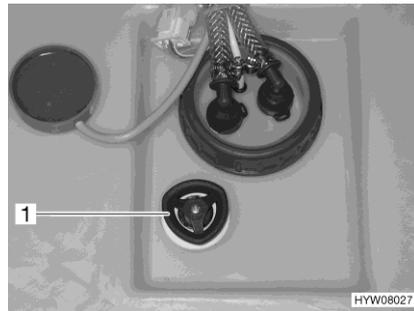

Fig. 129 Rotary handle (water tank)
- Turn the rotary handle (Fig. 129,1) on the water tank in a clockwise direction as far as it will go.
- Turn the rotary handle (Fig. 129,1) on the water tank in an anticlockwise direction up to the first catch. Excess water will drain away leaving approx. 20 litres in the tank.
- Turn the rotary handle (Fig. 129,1) on the water tank in an anticlockwise direction as far as possible beyond the resistance to fully open the drainage opening.